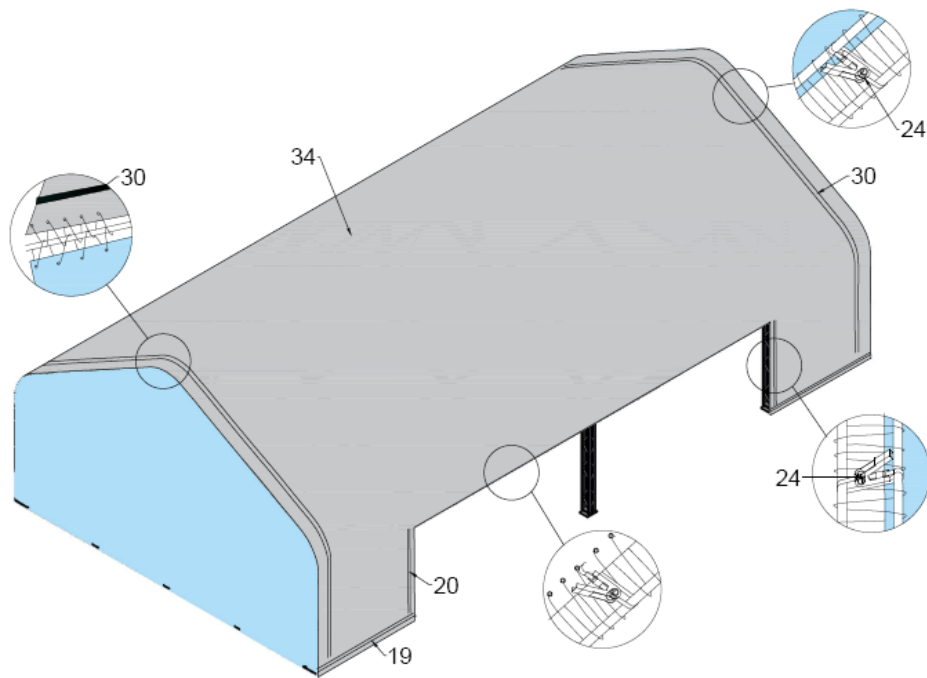

Figure 11
1. When Roof cover is over top of Frame assembly (see Figure 11), insert Tensioning tubes (No.17) into pockets along both sides of Roof cover, cut opening for Nylon band for ratchet, find the Nylon band over tube feed end into tie down to ratchet (No.6).